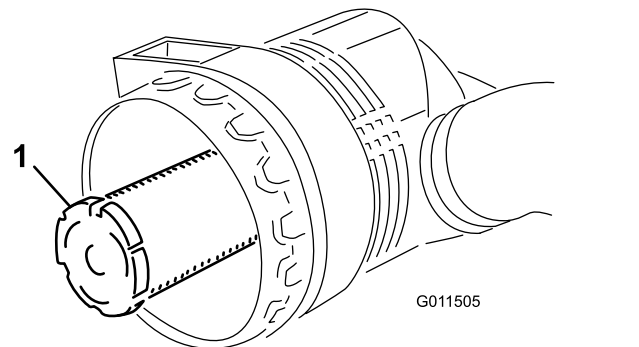

Figure 75
**Important:** Never attempt to clean the safety filter (Figure 75). Replace the safety filter with a new one after every 3 primary filter services.